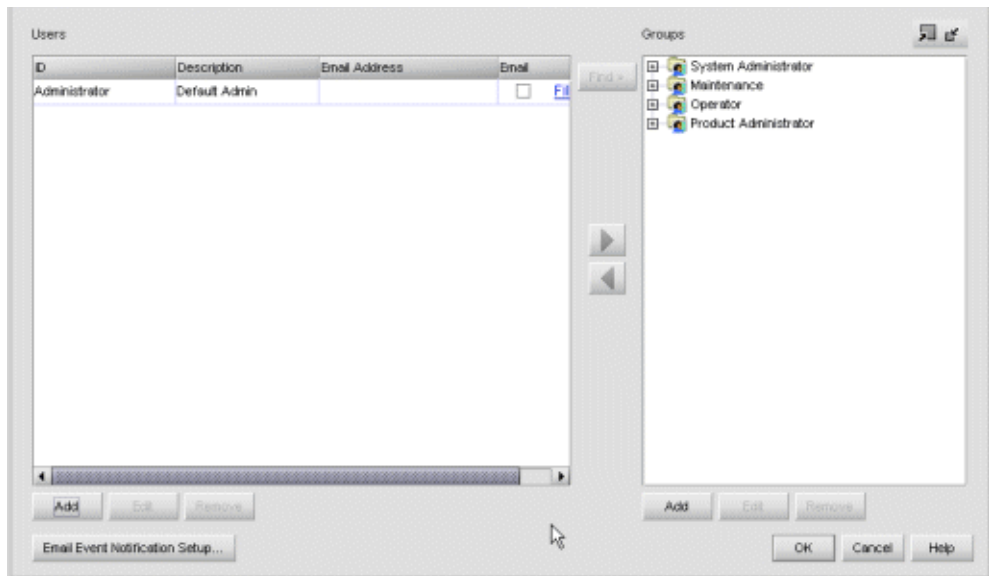

Figure 50: HAFM 8 Server Users dialog box
6. To specify users that are to receive e-mail notification, click **User List**. The HAFM 8 Server Users dialog box displays, as shown in Figure 50.